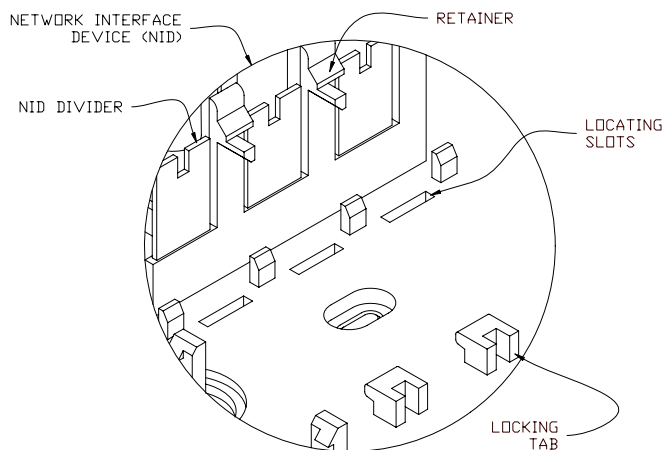

Figure 2
3. Engage the right end ledge under the catch. (See Figure 2).